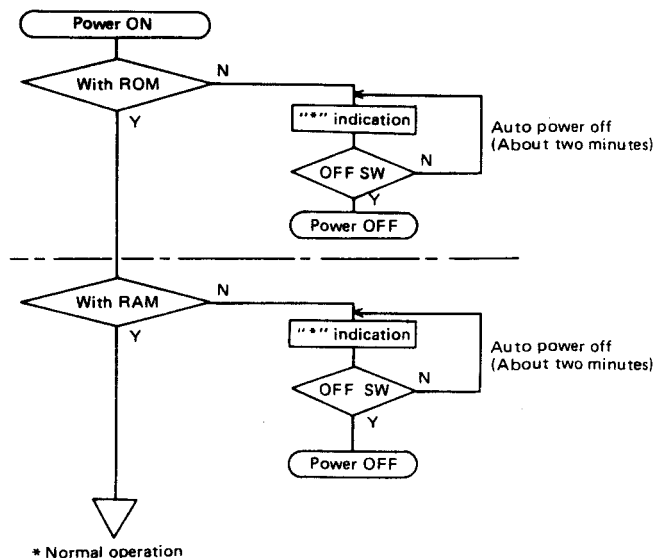

Fig. 1
- This machine incorporates the self-diagnosis function shown in the flowchart of Fig. 1.